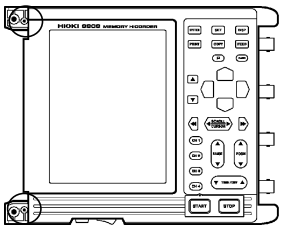

Figure 2
4. Remove the two hidden screws in the cover using a Phillips screwdriver (see Figure 2).